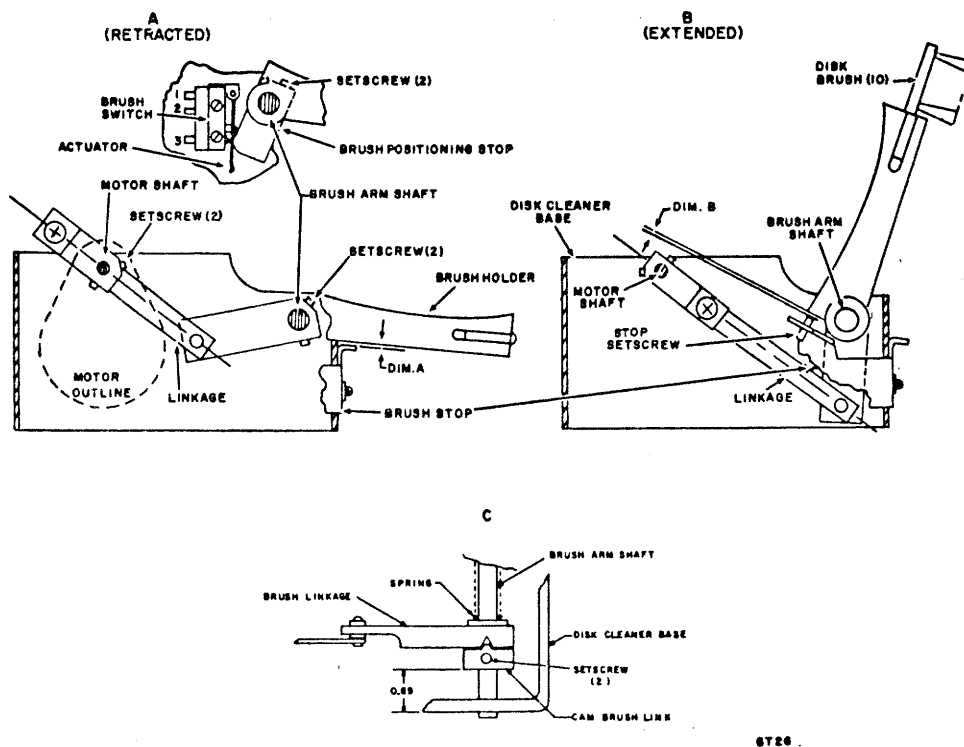

Figure 6-18. Disk Cleaner Adjustment
Check (Figure 6-18)
3. Using feeler gage, make certain that dimensions A and B (Figure 6-18) are a minimum of 0.010 inch as brushes reach limits of their travel.
Adjustment (Figure 6-18)
3. Set brush holder against brush stop with detent mechanism engaged. Align linkage according to part A, Figure 6-18. Tighten two setscrews securing linkage to motor shaft. Adjust dimension between cam brush link and disk cleaner base according to part C, Figure 6-18. Tighten two setscrews in cam brush link.
4. Loosen two screws securing brush stop. Place 0.020-inch shim or feeler gage between lower brush holder and brush stop (dimension A, Figure 6-18). Remove slack in linkage by pressing brush stop toward brush holder and tighten two screws securing brush stop.
5. Align linkage according to part B, Figure 6-18. Using a shim or feeler gage, turn stop setscrew to establish a 0.020-inch gap (dimension B, Figure 6-18) between stop setscrew and brush holder.
6. Align linkage according to part A, Figure 6-18. Loosen two setscrews securing brush positioning stop. Rotate brush positioning stop against brush switch actuator until switch clicks. Rotate brush positioning stop an additional 2 or 3 degrees and tighten both setscrews.
Removal and Replacement (Figure 6-18)